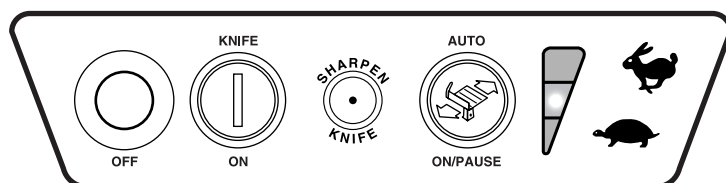

Fig. 10
- Turn the slicer on by pressing the KNIFE ON button (Fig. 10).
- Select one of the three speeds for the PRODUCT TRAY to move back and forth. Press the RABBIT symbol to increase speed; press the TURTLE symbol to decrease speed (Fig. 10). The speed indicator, located to the left of the symbols, shows which speed is selected. You can change the speed at any time.
- Press the AUTO ON / PAUSE button to start slicing (Fig. 10); the PRODUCT TRAY moves back and forth at the speed and at the stroke length you have selected.
- When done slicing, you can stop by pressing either the AUTO ON / PAUSE button or the OFF button (Fig. 10). Pressing AUTO ON / PAUSE returns the PRODUCT TRAY to the home position (all the way toward you).
The CleanCut™ KNIFE will provide long service in normal food retail or commercial kitchen use. **Sharpen only when necessary; prolonged or too frequent sharpening results in unnecessary KNIFE wear.** The SHARPEN KNIFE indicator light (Fig. 9 or Fig. 10) will come on after a factory-preset number of slicing strokes to indicate when sharpening is needed. This number has been set to represent a typical operation. Your operation may need more frequent sharpening.
Remove the TOP KNIFE COVER and the plastic RING GUARD COVER. Turn the LATCH KNOB counterclockwise and lift the TOP KNIFE COVER and plastic RING GUARD COVER off the slicer (Figs. 5, 6 & 7). Thoroughly wash the area around the KNIFE and both sides of the outer rim of the KNIFE. Food debris should not be allowed to transfer from the KNIFE to the SHARPENER. Plug in the machine power cord. When SHARPEN KNIFE indicator light is on, press the SHARPEN KNIFE button (Fig. 9 or Fig. 10) with your right hand while pulling the SHARPENER LEVER fully forward with your left hand (Fig. 29). The KNIFE comes on, sharpens for 8 seconds and shuts off. Release the SHARPENER LEVER. The stroke counter will then automatically reset. To sharpen before the SHARPEN KNIFE indicator light illuminates: Follow the directions above, but instead of turning on the motor with the SHARPEN KNIFE button, press the ON button for 8 seconds. Then, release the SHARPENER LEVER and press the OFF button. Unplug the SLICER power cord. Wipe the slicer with a clean damp cloth to remove any grinding particles. Reinstall the plastic RING GUARD COVER and the TOP KNIFE COVER.